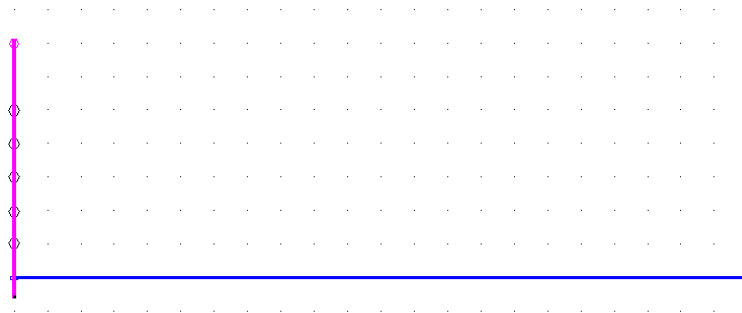

Figure 4-82
19. Connect the pipe to the water supply and to all the hydrants by left clicking the mouse each time the pipe passes over a hydrant, and draw a straight line through all the hydrants ending with the active hydrant. Connect about 10ft (3m) of mainline pipe past the last hydrant. This will allow IRRICAD to tee the mainline into the last hydrant rather than elbow into it. Select *Right-click|Restart*. See Figure 4-82.